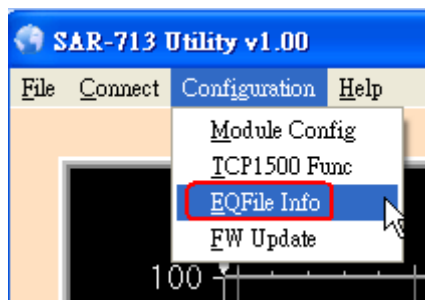
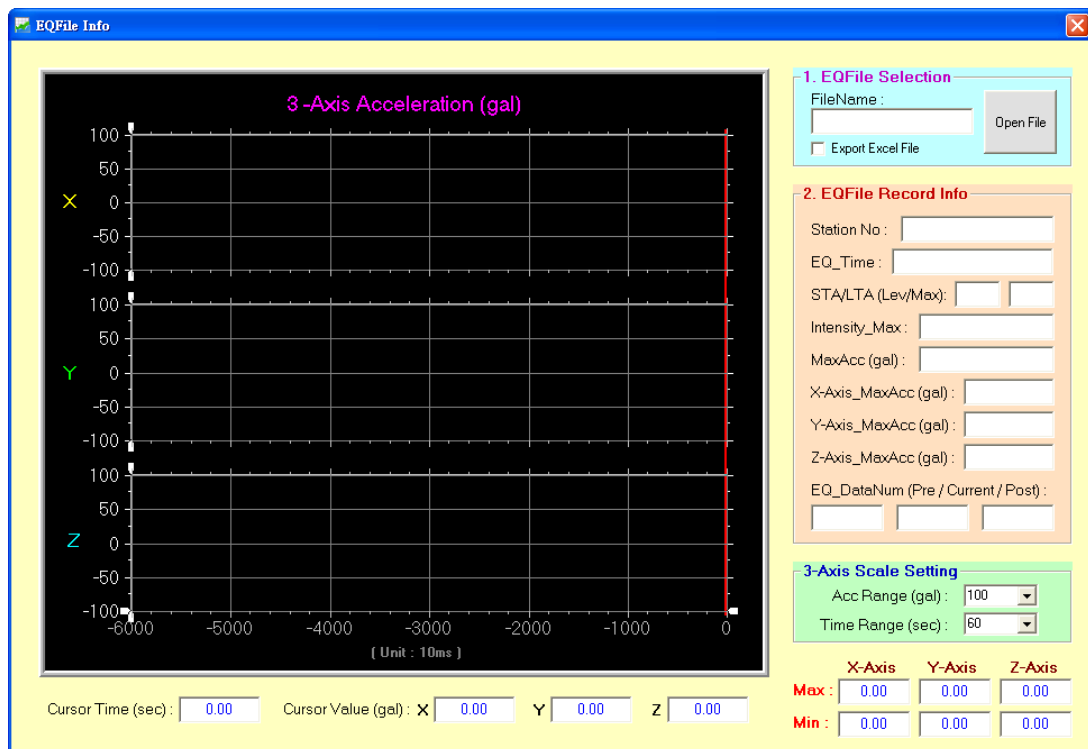

Fig 5.4-1 Open EQFile Info Screen
Fig 5.4-2 EQFile Info Screen
- (1) Click “Configuration” item in the menu bar and choose “EQFile Info” function like Fig 5.4-1. The EQFile Info screen will be opened like Fig 5.4-2.